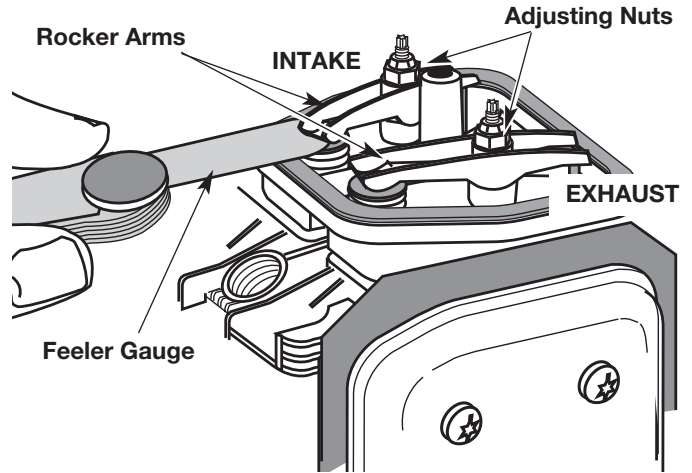
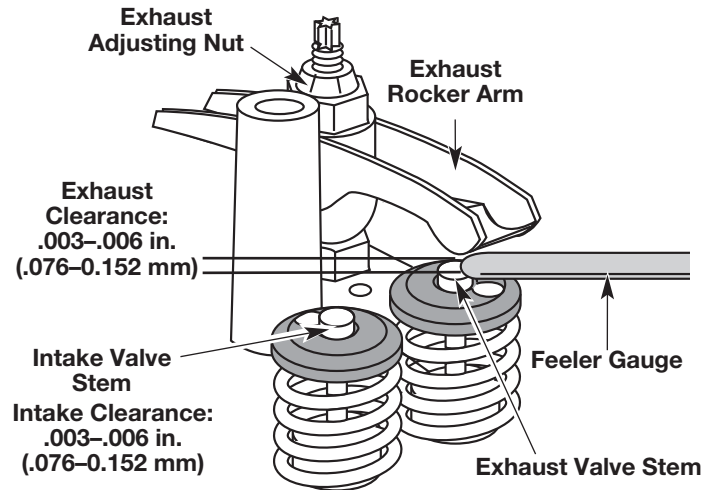

Fig. 54
Fig. 55
9. Slide the feeler gauge between the rocker arm and the valve return spring. Measure the clearance between the valve stem and rocker arm (Fig. 54). Measure both the intake and exhaust valves.
Use a standard automotive feeler gauge at .005 in. (0.127mm). The feeler gauge should slide between the rocker arm and valve stem with a slight amount of resistance, without binding. Figure 54 shows how to measure the clearance, while Figure 55 shows the measured clearance.
- a. Turn the adjusting nut using a 5/16 inch (8 mm) wrench or nut driver (Fig. 55).